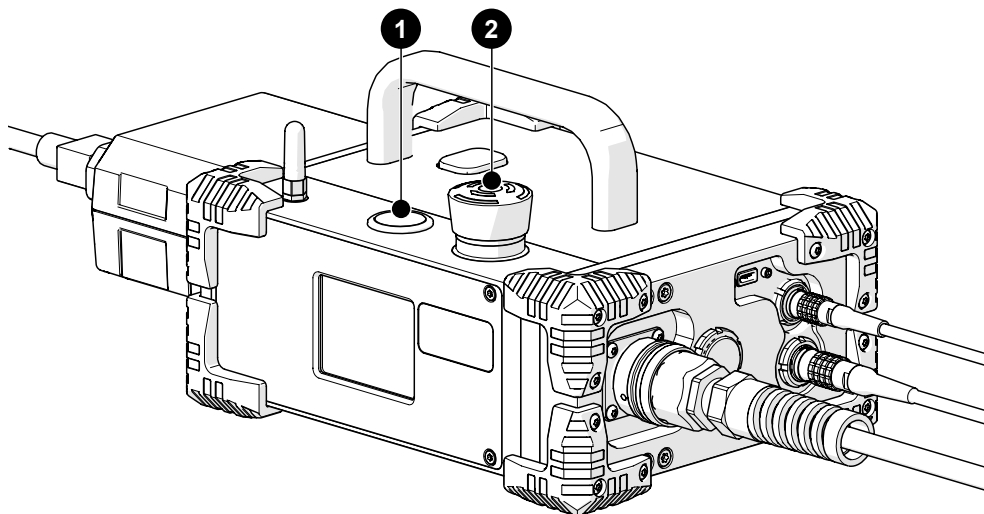

Fig. 156 - System controller
2. Locate the **2** red off push-button on the system controller. Rotate this button clockwise to unlatch (Fig. 156).
3. The **1** power button (Fig. 156) on the system controller activates the system.